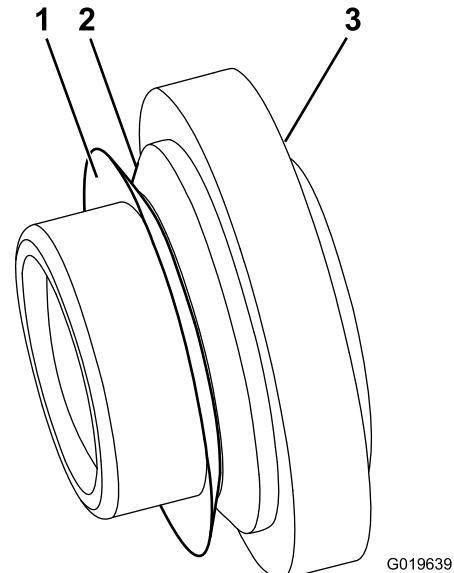

Figure 6
18. Insert a V-ring onto each nut as shown in Figure 6.
19. Lubricate the seal lip with #2 grease as shown in Figure 6.